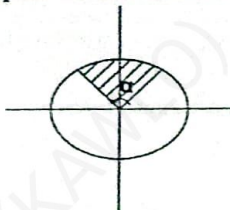

Figure 3
19. What part of the circle is represented in figure 3?